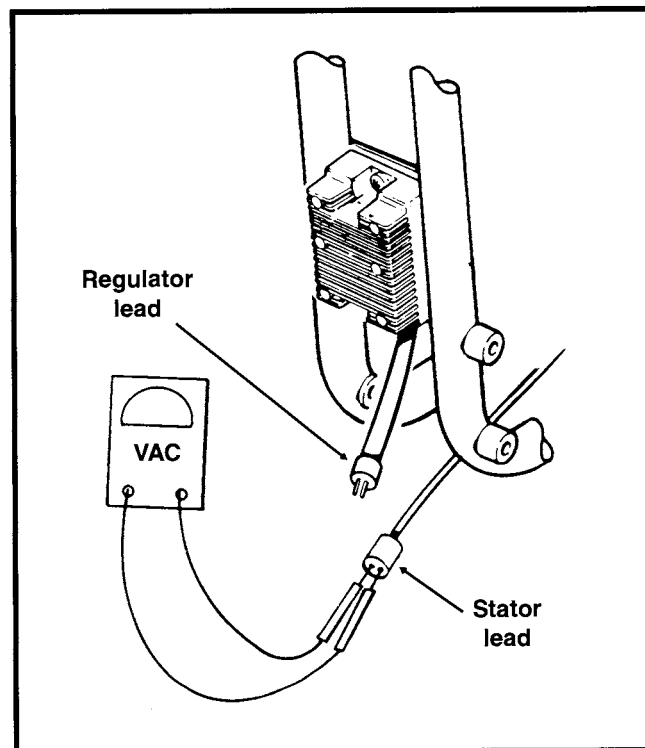

Figure 7. Check Stator AC Voltage Output
1. See Figure 7. To test AC output, disconnect the regulator and connect an AC voltmeter across both stator sockets. Run the engine at 2000 R.P.M. The AC output should be 38-52 volts AC.